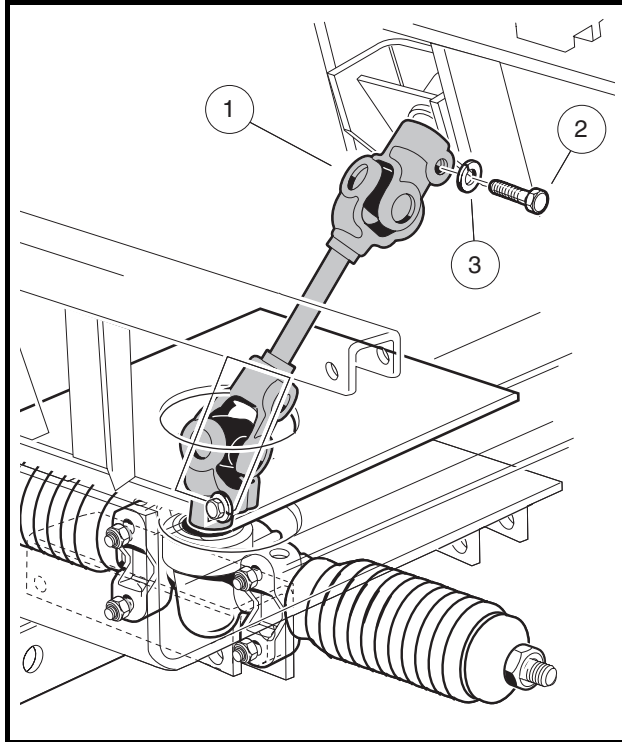

Figure 7-4 Steering Joint Assembly
6. Remove the upper bolt (2) and lockwasher (3) from the steering universal joint (1) (**Figure 7-4, Page 7-4**).
8. Disconnect the steering universal joint (1) from the steering column shaft and remove the steering column from the vehicle (**Figure 7-4, Page 7-4**).
4. Install bolt (2) and lockwasher (3) on the upper steering joint and finger-tighten (**Figure 7-4, Page 7-4**).